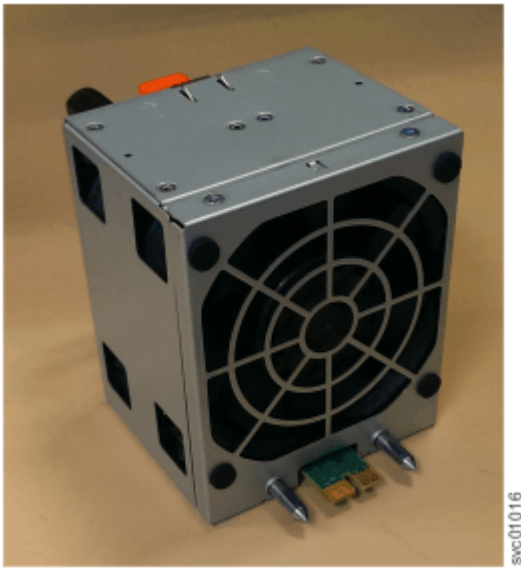

Figure 185. Fan module orientation
5. Hold the fan module with the release tab on top and the connector pin on the bottom, as shown in Figure 185 on page 211.